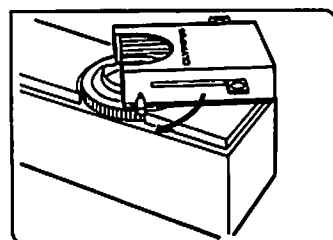

Fig. 28
1. Fully loosen the filter cassette clamping screw ⑦. (Fig. 28)
2. Holding the filter housing above the light exit glass, align the key ⑥ with the slot ③ and snap the filter housing into place from above.
3. Rotate the filter housing to align its sides with the base. (Fig. 28)
4. Align the clamping screw ⑦ with the positioning hole ⑧ on the light exit, then tighten the screw to fasten the filter cassette.